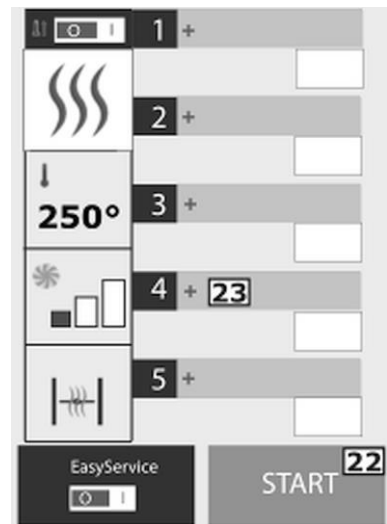

Fig. 30
Regardless of whether the program includes pre-heating or not, the first thing to do is start the program by pressing START key (22, Fig. 30).
After starting the program and at the end of pre-heating (if present), press the '+' symbol key (23, Fig. 30) for each of the right hand fields to add the name of the dish to be enter for the selected level.